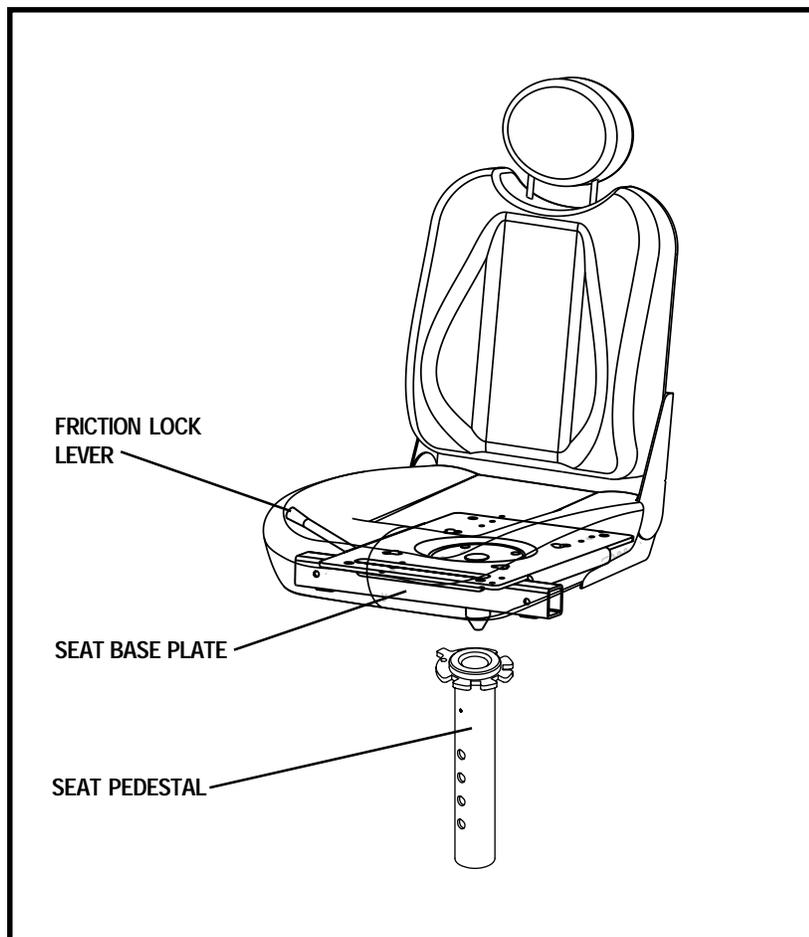

Figure 9. Seat Installation
1. Align the seat base plate with the seat pedestal. See figure 9.